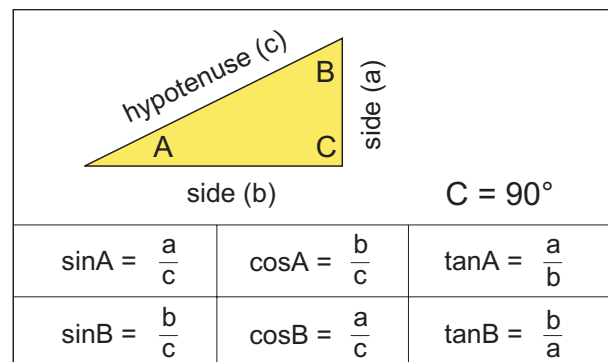

Figure 53-20
*Figure 53-20* shows the most important relationships of sides and angles of a right triangle.